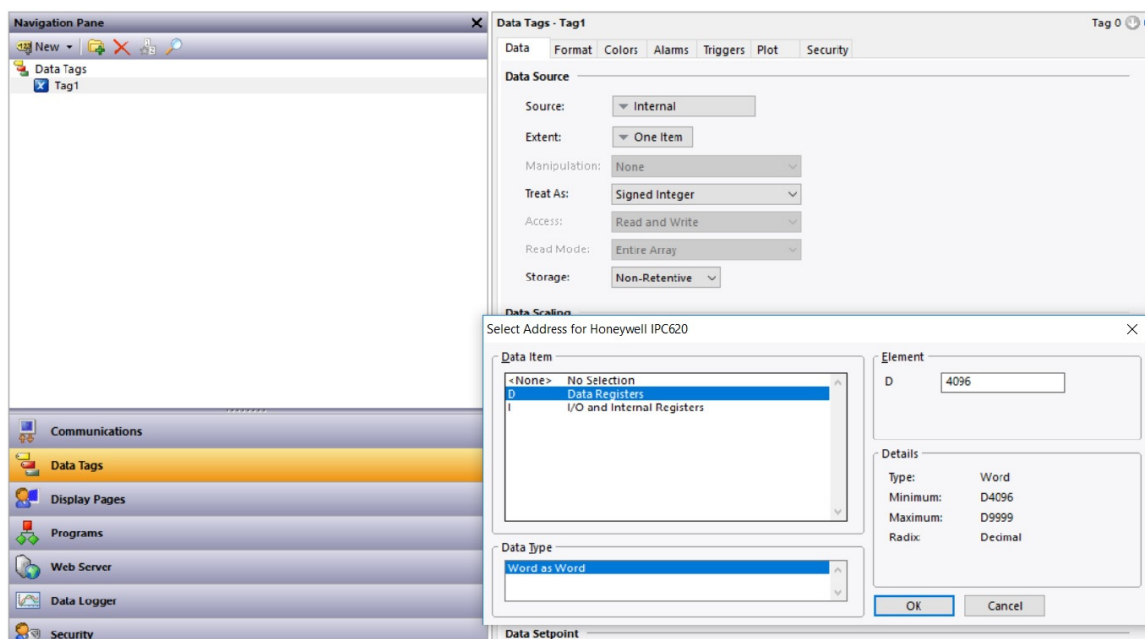

Figure 4.
4. Referring to Figure 4, go to the Navigation Pane and select the newly created Data tag; *Tag1*.